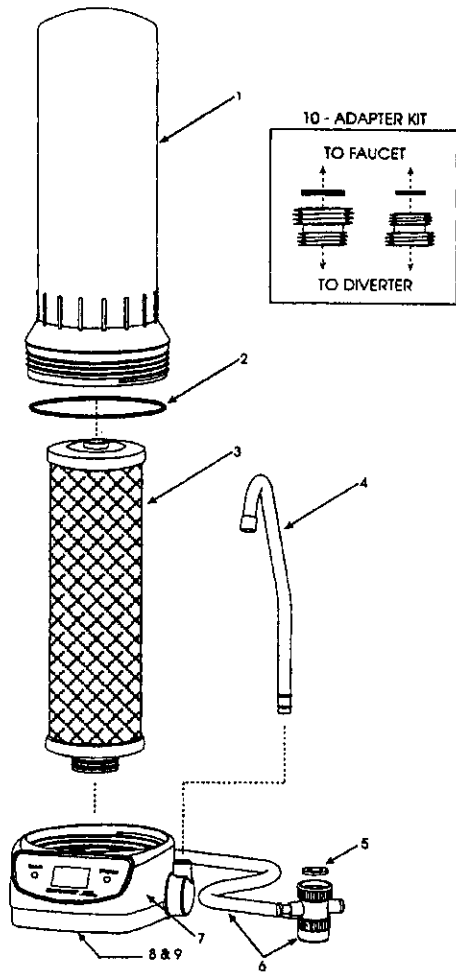
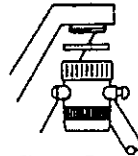

Figure 1
Figure 5
1. Compare box contents with major parts list. (See Figure 1.) Please Note: The Filter is installed, ready for use.
Thread the Diverter Valve onto the faucet "hand-tight" only. (See Figure 5.) Do not overtighten! Overtightening can damage the threads. If the diverter will not thread on properly, use the thin gasket. If the Diverter Valve is not compatible, an Adapter and Gasket Kit is provided to obtain a proper fit. (See Figure 1.)